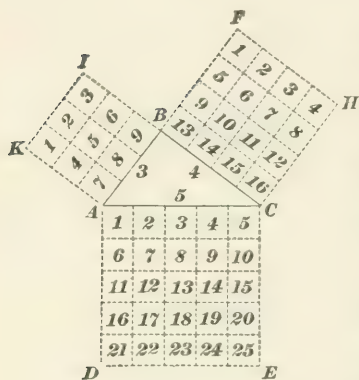

FIG. 28.
58. In any right triangle, the square described on the hypotenuse is equal to the sum of the squares described upon the other two sides. If ABC , Fig. 28, is a right triangle right-angled at B , then the square described upon the hypotenuse AC is equal to the sum of the squares described upon the sides AB and BC . Hence, having given the two sides forming